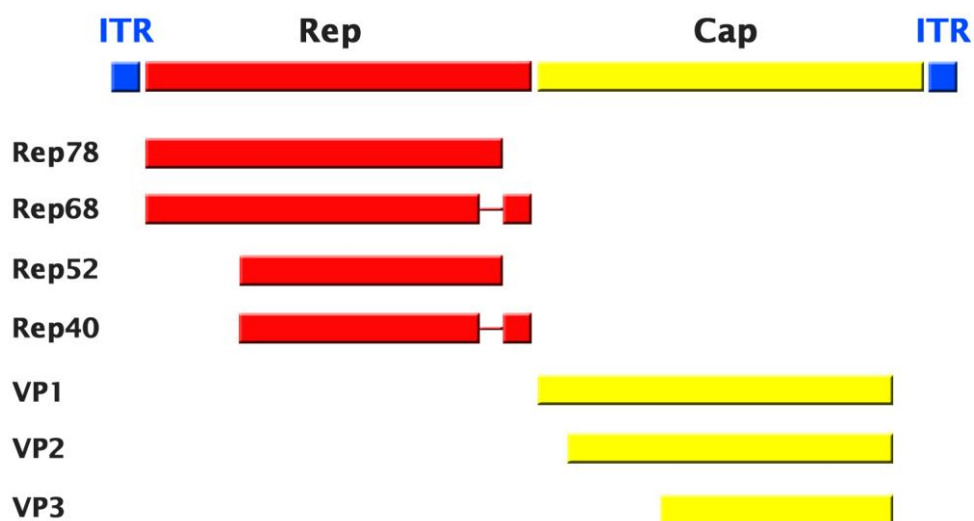

Figure 1. Schematic Map of AAV Genome. Rep: involved in genome replication; VP1/2/3: capsid viral proteins.
Adeno-associated virus (AAV) belongs to the family of Parvoviridae, a group of viruses among the smallest of single-stranded and non-enveloped DNA viruses. There are eleven different AAV serotypes reported to date. The AAV genome is built of single-stranded deoxyribonucleic acid (ssDNA), either positive- or negative-sensed, which is about 4.7 kilobase long. The genome is made up of inverted terminal repeats (ITRs) at both ends of the DNA strand as well as two open reading frames (ORFs): Cap (Capsid) and Rep (Replication). On the 5' end of the genome there are two promoters called p5 and p19, from which two overlapping mRNAs of different length can be produced. Each of the mRNA sequences contains an intron that can be either spliced out or not resulting in four different mRNAs, and therefore four possible Rep proteins. The protein names describe their size in kilodaltons (kDa): Rep78, Rep68, Rep52 and Rep40. The Cap coding region contains overlapping nucleotide sequences of three capsid viral proteins (VP), VP1, VP2 and VP3, which interact together to form an icosahedral capsid structure in a ratio of 5 VP1: 5 VP2: 50 VP3 (Figure 1).